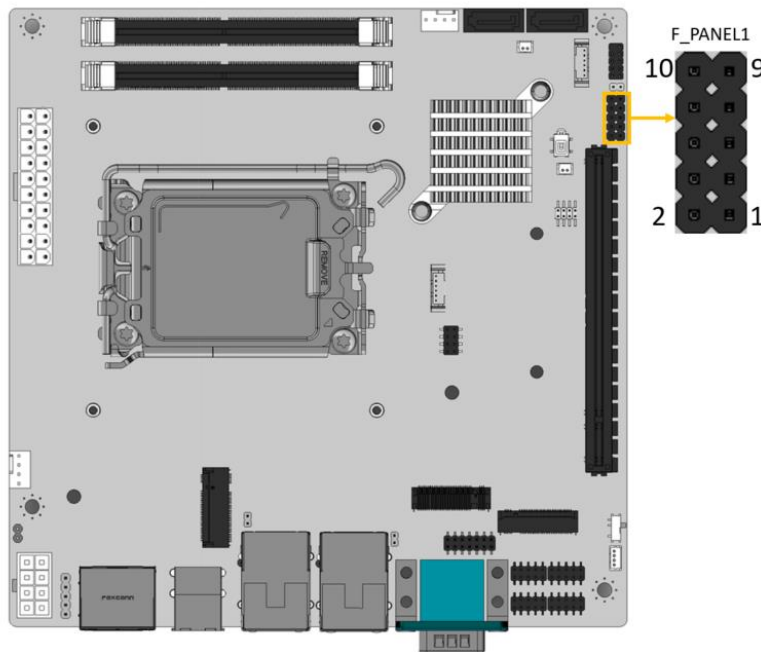

Figure 3-9: Front Panel Connector Location
- CN Location:** See Figure 3-9